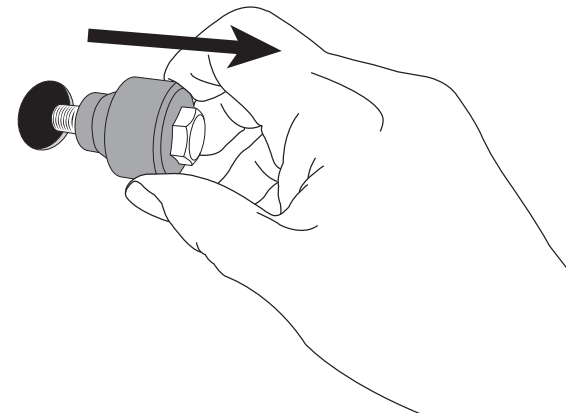

Figure 5
5. When the hole punch breaks through the material it will move freely. Withdraw the hole punch from the bumper panel (Figure 5), leaving a cleanly cut hole.